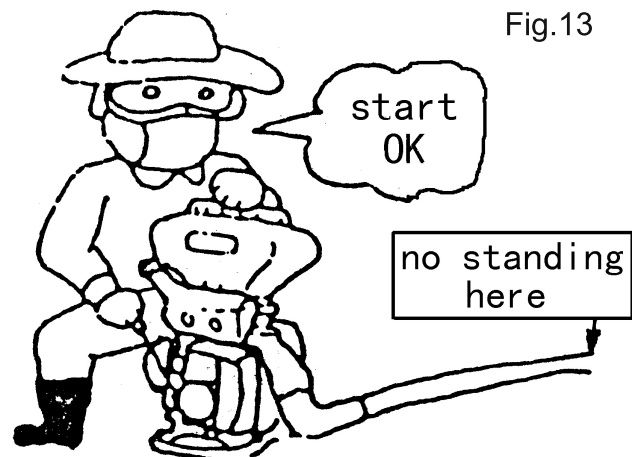

Fig.13
2. Protective clothing (Fig 13)